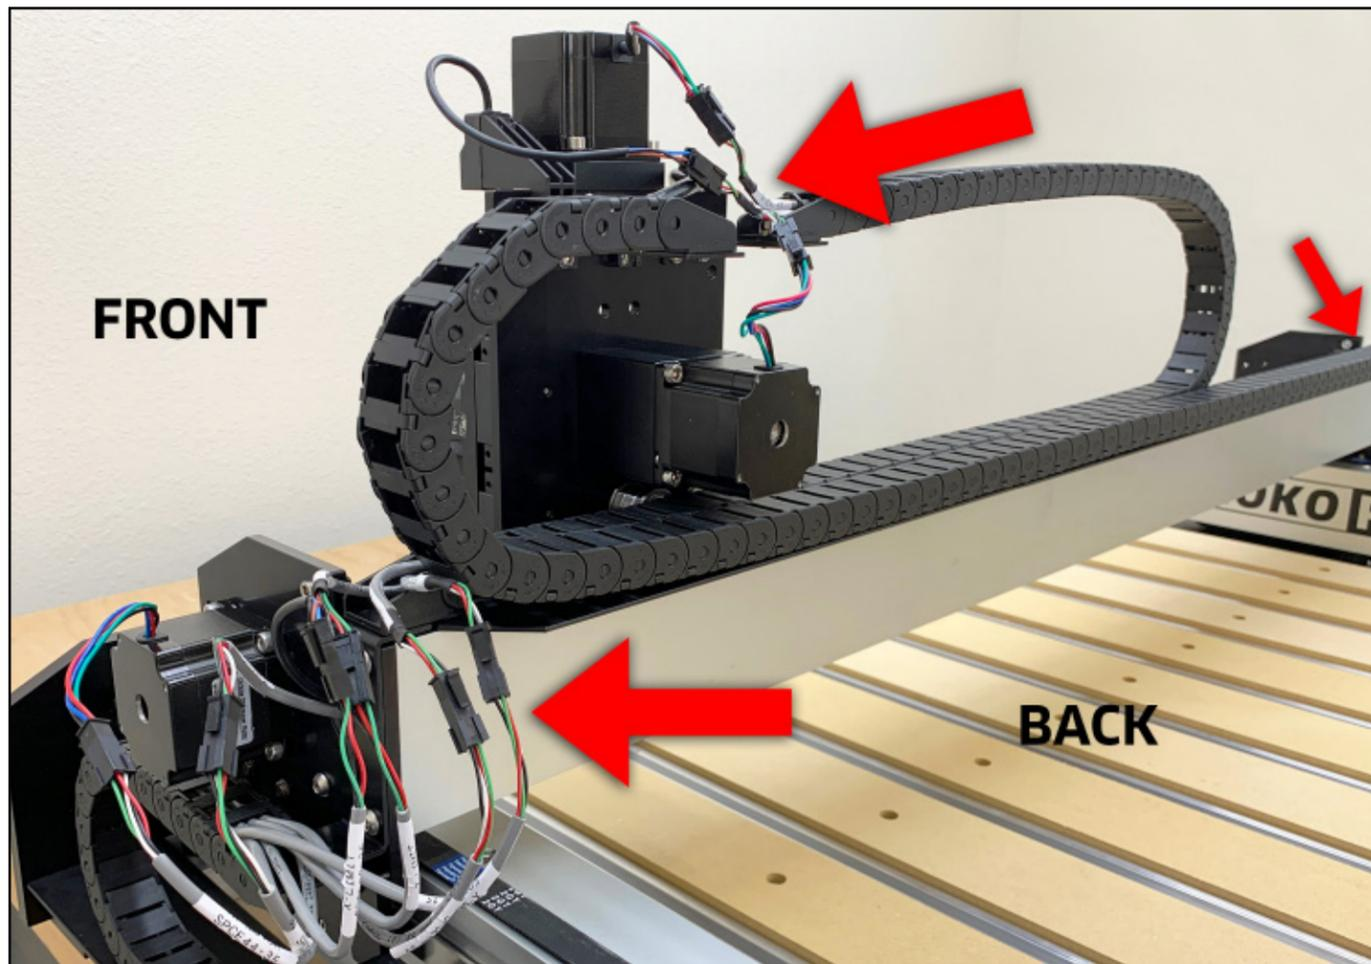

Figure 9-4
1. Connect the X- and Z-motor cables and the Z-proximity switch connectors at the back of the X/Z assembly. See **Figs. 9-4 and 9-6**.
2. Connect the X-, Y-Left, Y-Right, and Z-motor extension cables, and the X- and Z-proximity switches at the right end of the gantry. See **Fig. 9-4**.